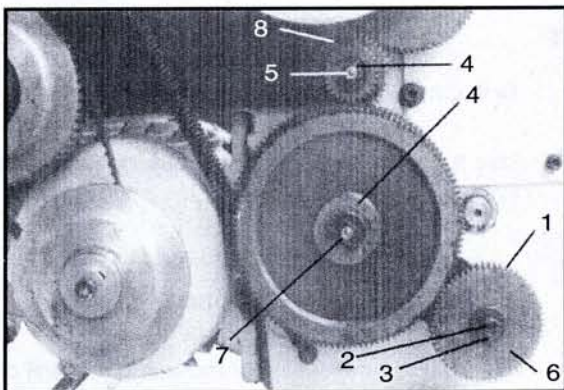

Fig.22
Example of Gear Set -Up to Cut 10 T. P. I. (Fig. 22)
1. Loosen screw(1, Fig. 22)
2. Loosen bolt(2). Remove washers(3) and gear(6).
3. Loosen bolts(7) to allow movement in the center gear position.
4. Loosen nuts(5). Remove washer(4) and gear(8).